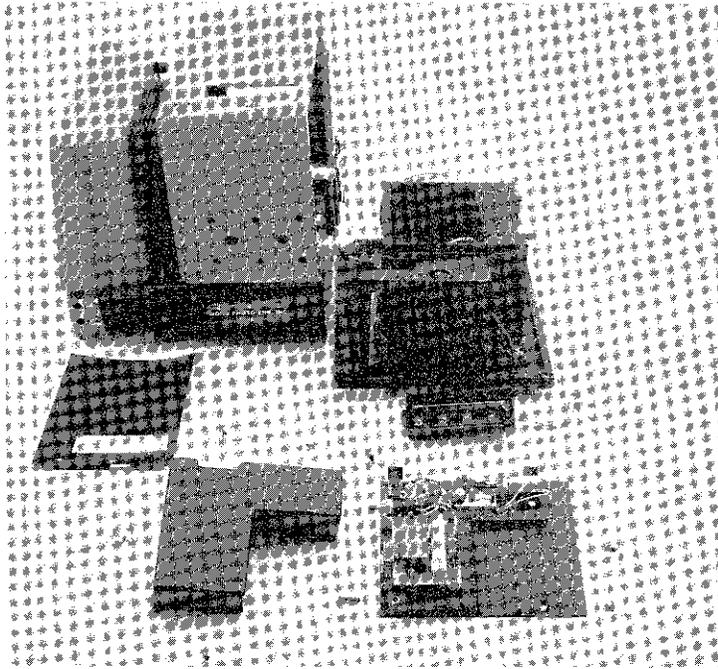

Fig.3
2. Pull out back plate and mirror assy. by removing the six phillips screws (see Parts Fig. 3 in manual).